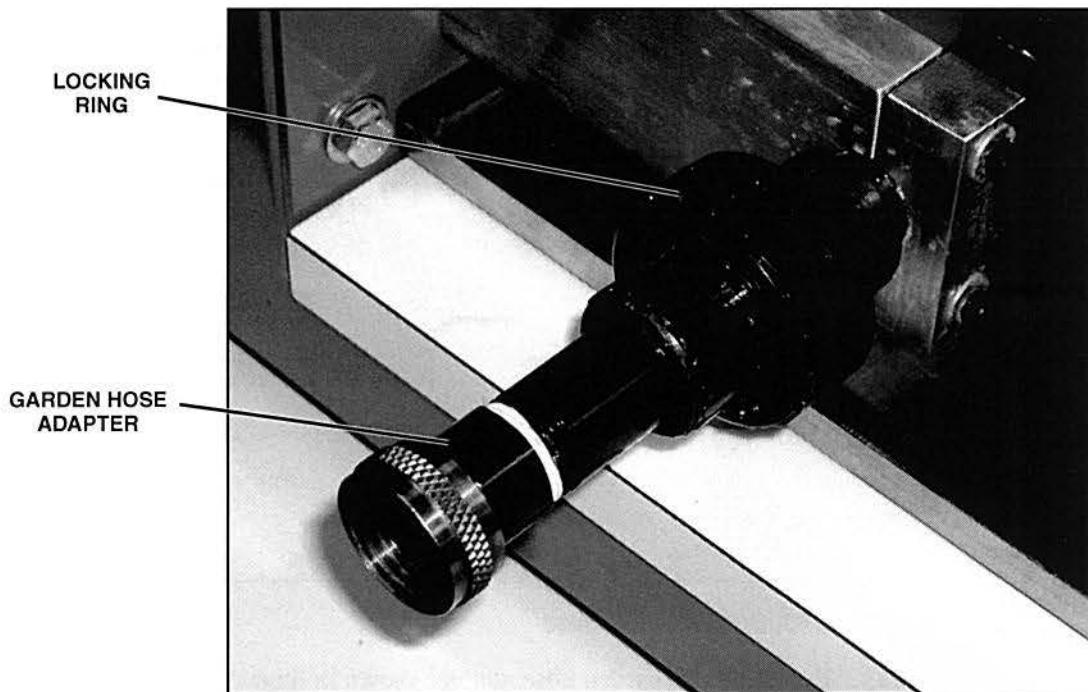

Figure 42. Garden Hose Adapter Connected in Place of End Cap
F. Connect the garden hose adapter in the location where the end cap was removed, as shown in figure 42.